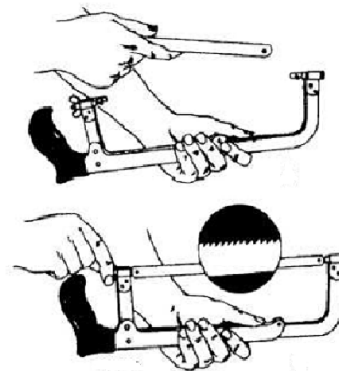

Fig.4.8: Installing the blade.
1. Install the teeth point away from the handle of the hacksaw as shown in Fig.4.8.